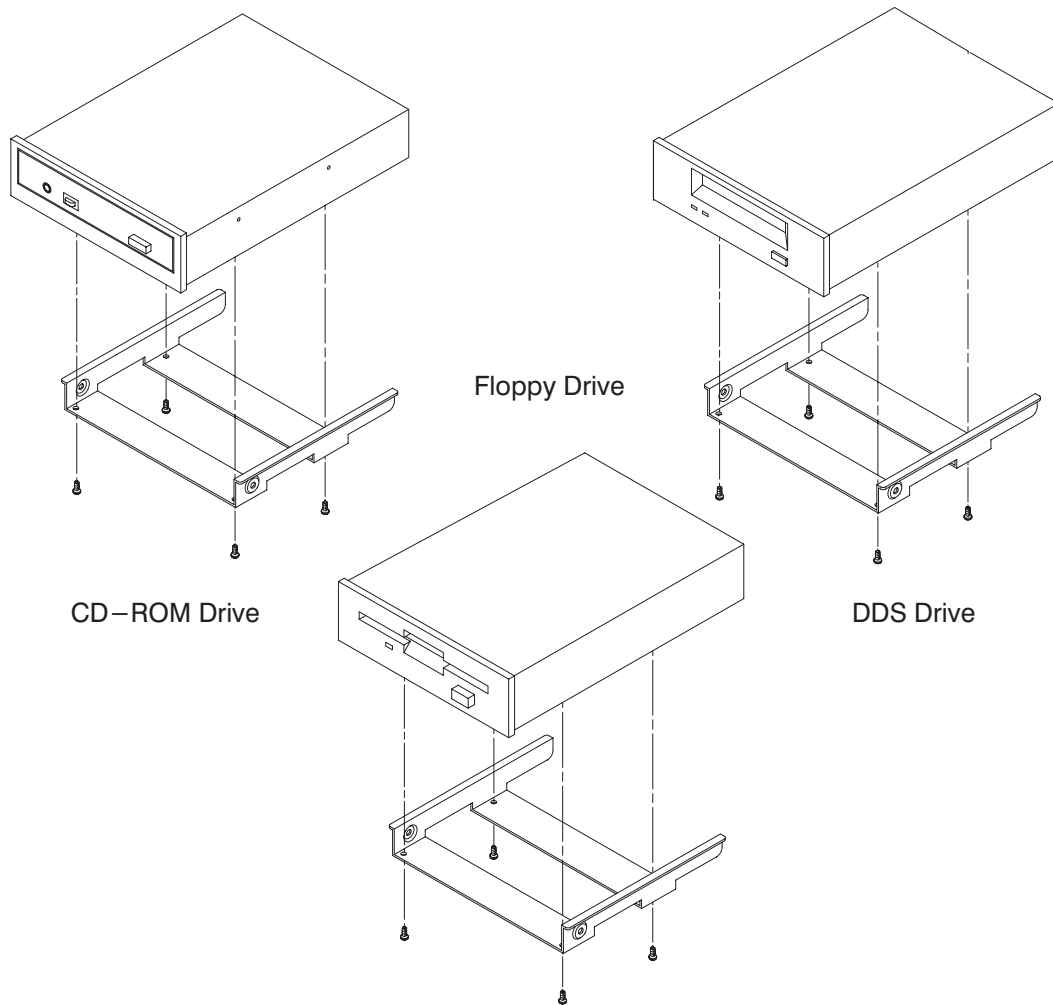

Figure B-14. Attaching Removable Drive Mounting Bracket and Drive Orientation
- 13.** Figure B-14 shows the orientation of each of the removable media drives in the bracket and the position of the screws holding the drive bracket in place. The same bracket can be used on all three drives.